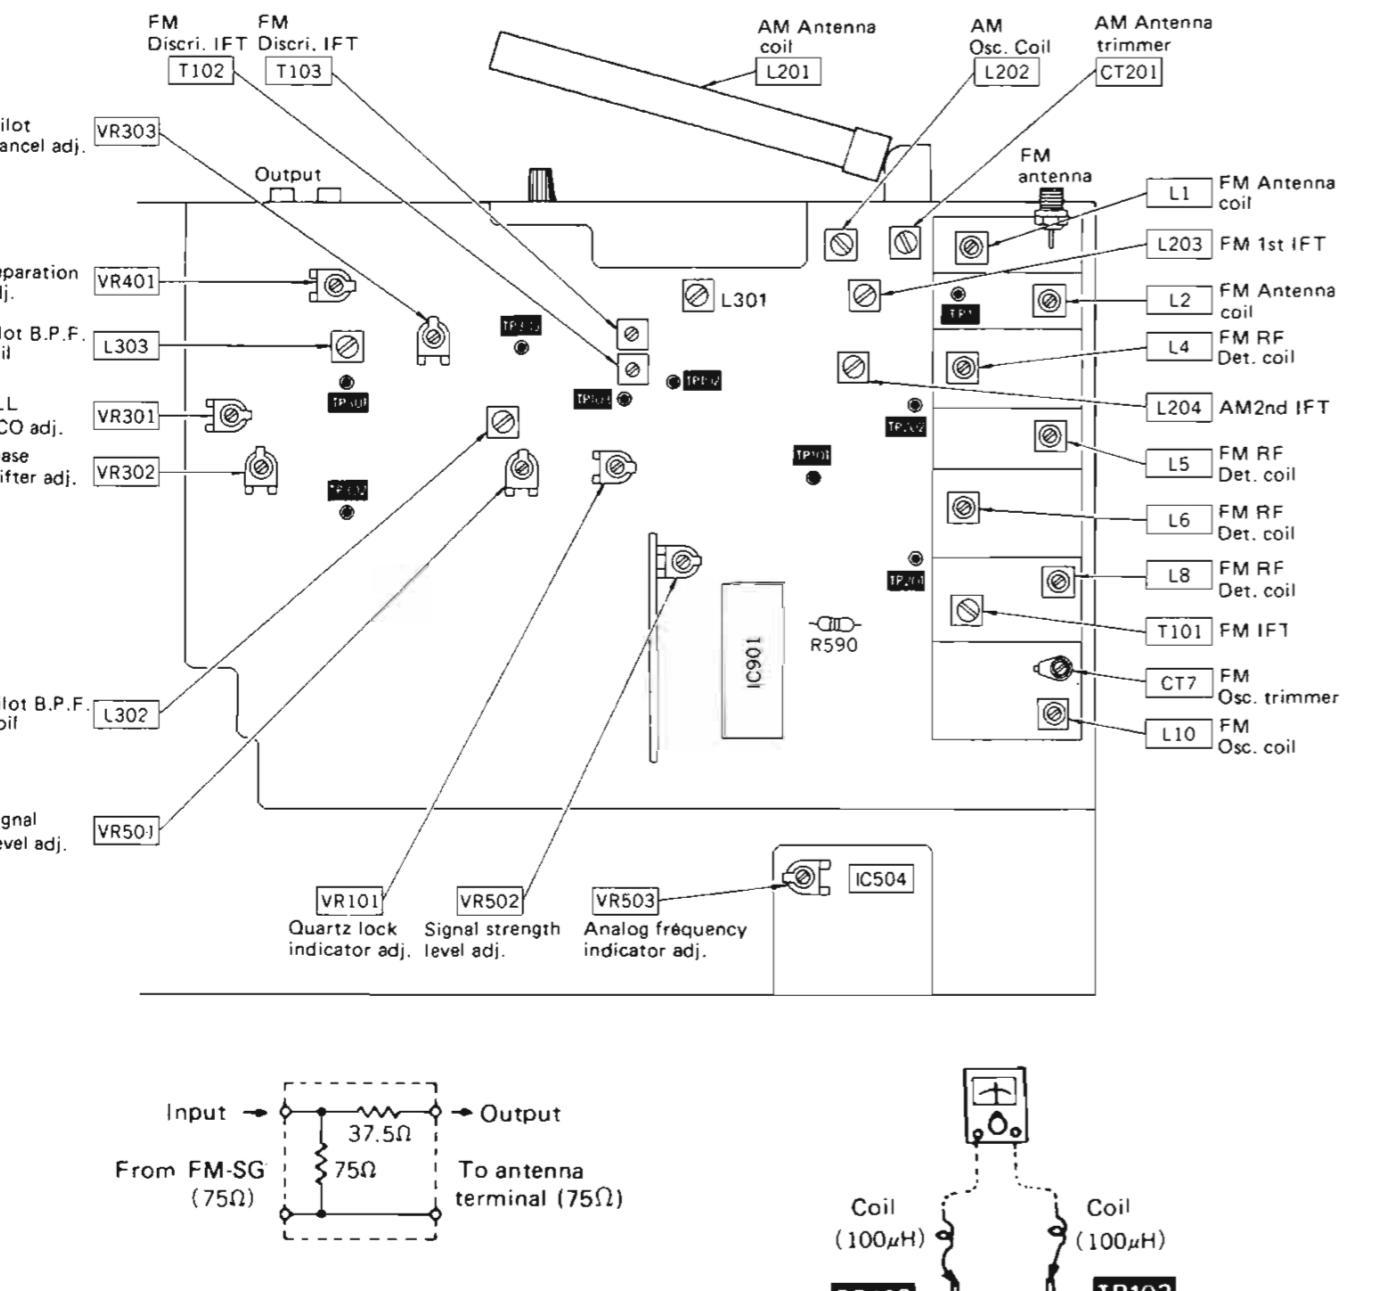

Fig. 6
7. Antenne fictive FM, 75 ohms (Fig. 6) et filtre passe-bas (fc = 15 ~ 19kHz)